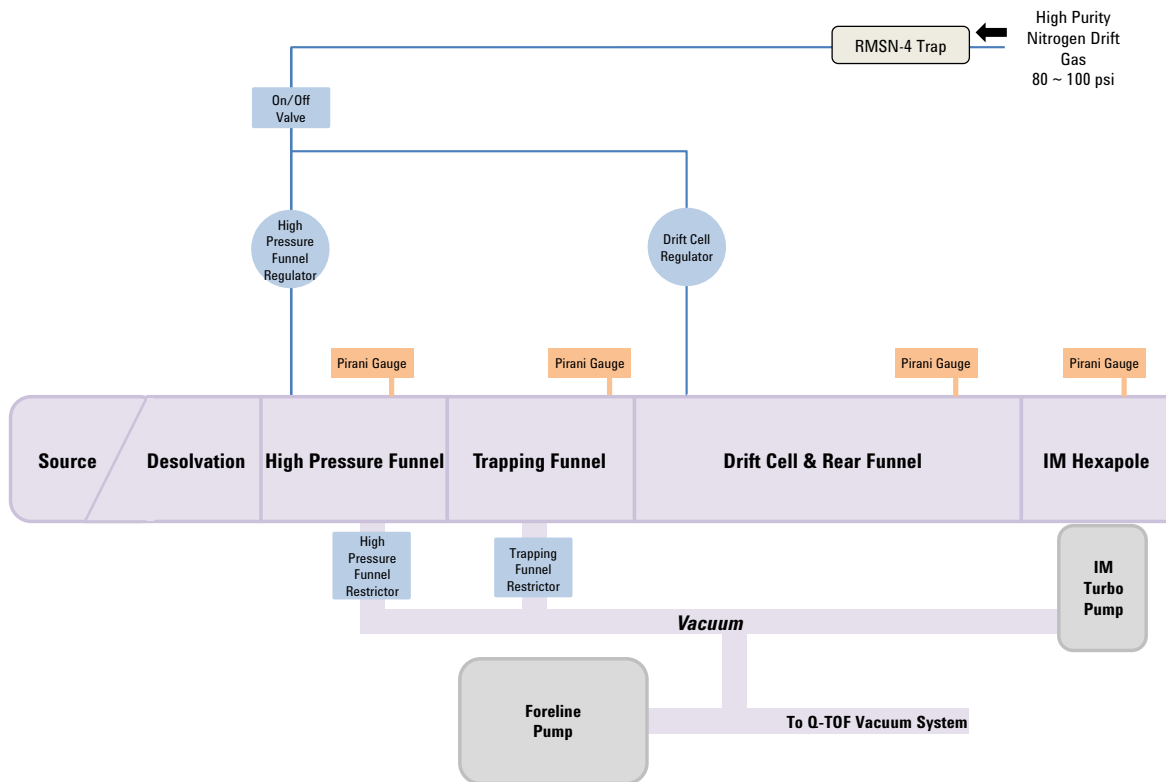

Figure 1 Gas plumbing for IM-QTOF instrument (IM section)
The IM-QTOF instrument uses a drift tube that is pressurized using high purity nitrogen drift gas to achieve Ion Mobility (IM) separation. The standard gas plumbing for the IM section of the IM-QTOF instrument is shown in Figure 1.